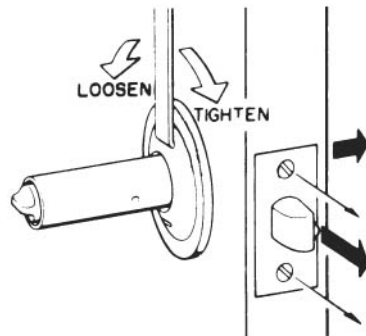

Figure 13.16 Tightening rose.
3. Place the wrench into the slot in the rose liner and rotate it clockwise until it's tight on the door. If the lockset is extremely loose, tighten the outside rose and inside liner *equally* (Fig. 13.16).